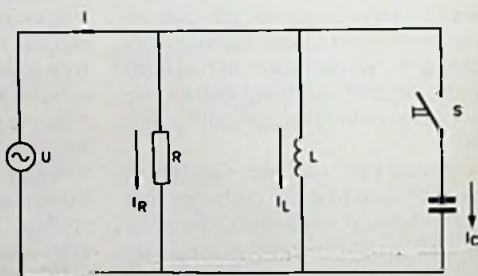

FIG. 2
④ In fig. 2 is $U = 14 \text{ V}$